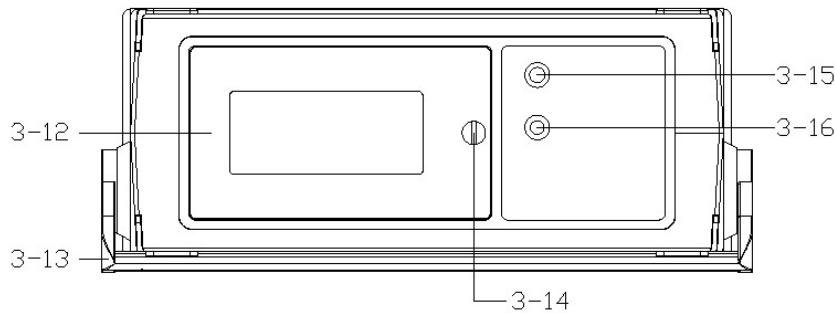

Fig. 1
1. Power ON the meter by pressing and holding the „Power Button“ (3-2, Fig. 1) for at least 2 seconds.
2. General magnetic field measurement Function by pressing the „Function Button“ (3-2, Fig. 1) to select General measure function.
3. General Probe Plug (3-23, Fig. 1) into the meter General Probe Input Socket (3-18, Fig. 1)
4. „DC“ or „AC“measurement Function select by pressing the „AC/CD Button“ (3-8, Fig. 1) to select measure function DC or AC function .
5. Magnetic field measurement range select by pressing the „Range Button“ (3-5, Fig. 1) to select, Range 1 or, Range 2 .
6. Unit selection by press the „Range Button2 (3-5, Fig. 1) to select the unit mT or G.
» Before the measurement, fix the probe at the exact position, by pressing and holding the "▲" (3-3 Fig. 1) & "▼" Button (3-9 Fig. 1) continuously at least 1.5 seconds until the display shows „0“ value, then release the finger from the button, if want to zero value > 40 count the display will show „Error“, then back to normal value.
2. Precision magnetic field measurement Function by pressing the „Function Button“ (3-2, Fig. 1) to select Precision measure function.
3. Precision Probe Plug (3-21, Fig. 1) into the meter Precision Probe Input Socket (3-17, Fig. 1).
4. „DC“ or „AC“ measurement Function select by pressing the „AC/CD Button“ (3-8, Fig. 1) to select measure function DC or AC function.
5. Select the magnetic field measurement range by pressing the „Range Button“ (3-5, Fig. 1) to select Range 1 or Range 2.
6. Unit selection by pressing the „Range Button“ (3-5, Fig. 1) to select the unit micro Tesla or milligauss.
2. Power ON the meter by pressing the „Power Button“ (3-2 Fig 1) once.
3. Select the unit (mG or uT) by press the „UNIT Button“ (3-5 Fig 1) once.
2. For precision DC magnetic field measurement it should those „not zero“ value (existing environment earth's magnetic field value) at first. Before the measurement, fix the probe at the exact position, by pressing and holding the „ $\Delta$ “ key (3-3, Fig. 1) continuously at least two seconds until the display shows „0“ indicator then release the finger from the button.
- » Press the „Zero Button“ (3-5, Fig 1) continuously at least 2 seconds the „0“ indicator will be disappeared and the Display will return to the value „no zero“ (show the environment magnetic field).
During the measurement, press the „Hold Button“ (3-3, Fig. 1) once will hold the measured value & the LCD will display a „HOLD“ symbol.
1. The data record function records the maximum and minimum readings. Press the „REC Button“ (3-4, Fig.1).
- a. Press the „REC Button“ (3-4, Fig. 1) once, the „REC MAX“ symbol along with the maximum value will appear on the display.
- b. Press the „REC Button“ (3-4, Fig. 1) again, the „REC MIN“ symbol along with the minimum value will appear on the display.
Prepare an „SD memory card“ (1 G to 16 G, optional), insert the SD card into the „SD card socket“ (3-11, Fig. 1). The front panel of the SD card should face against the the down case.